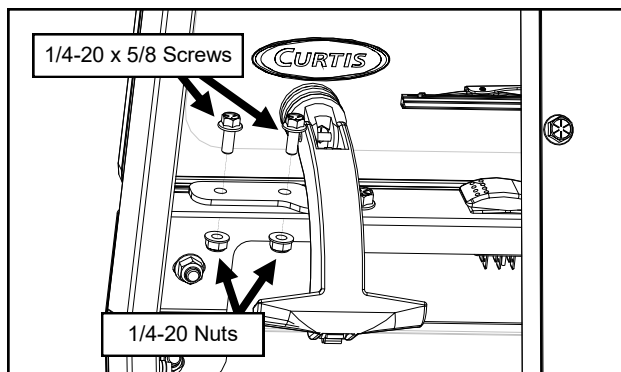

Fig. 13.2 (Secure Windshield Latches)
- 13.2** Secure the windshield latches to the side frames with the latches open, and tighten latch hardware. See Figure 13.2.